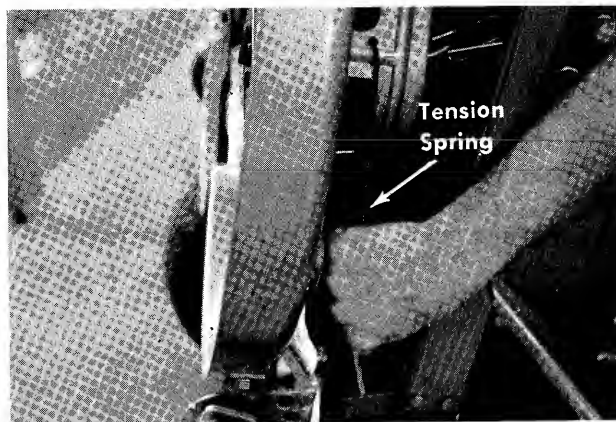

FIGURE 33. REMOVING TENSION SPRINGS
- Step 5. Unhook the tension springs on both sides of the deck. See figure 33.